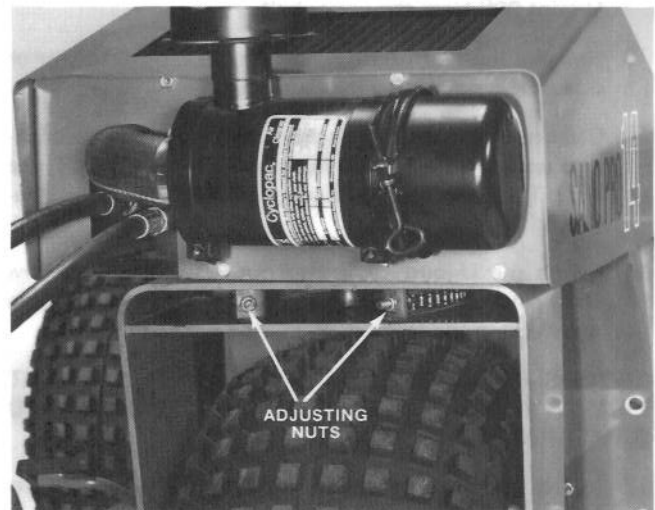

Figure 35
2. Adjust the locknuts until the chain is snug on both sides of the sprocket (Fig. 35).
4. To remove the chain, remove the two adjusting nuts (Fig. 35).